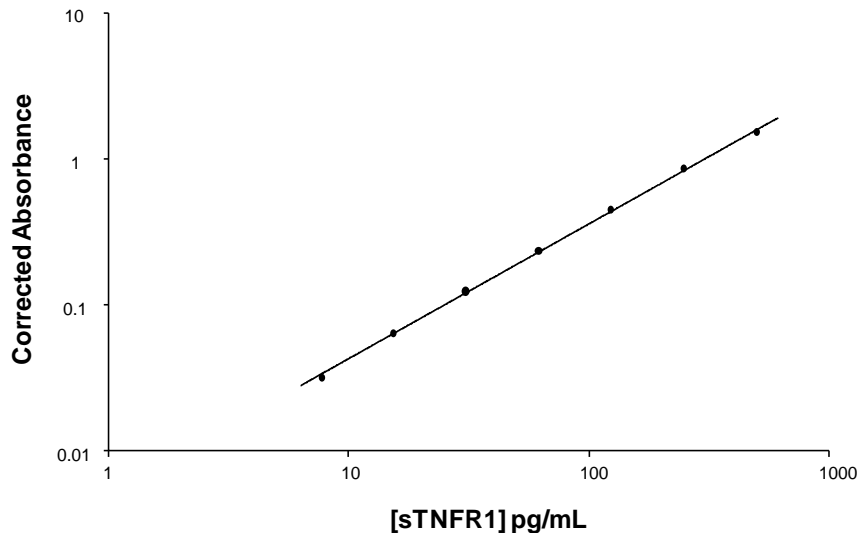

Figure 2: Representative EKF Diagnostics Human sTNFR1 EIA Calibration Curve
3. Create a calibration curve by plotting corrected absorbance values (y-axis, logarithmic scale) against sTNFR1 calibrator concentration (x-axis, logarithmic scale) using linear regression analysis, refer to Figure 2 for an example of a typical calibration curve.